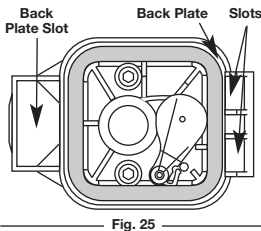

Fig. 25
- Reinstall the filter (Fig. 25).
- Reinstall the air filter cover. Position the hooks on the right side of the air filter cover into the slots at the right side of the back plate (Fig. 25).